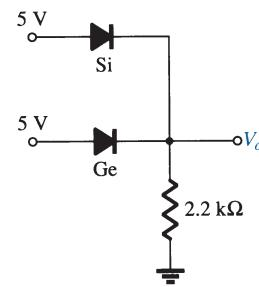

FIG. 167
21. Determine V_o for the configuration of Fig. 167.